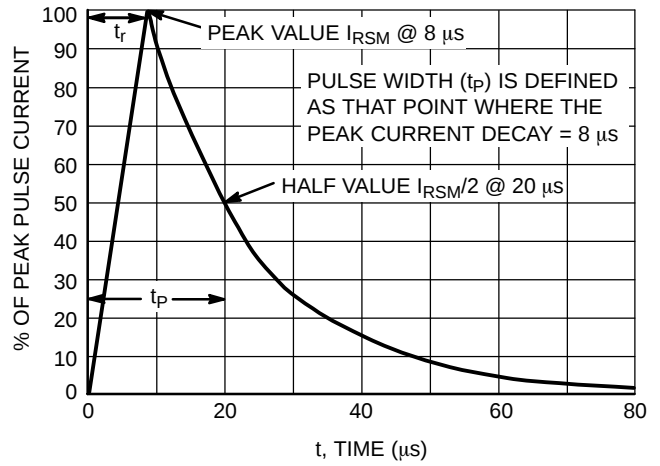

Figure 2. 8 x 20 μ s Pulse Waveform
1. Non-repetitive current pulse per Figure 2
5. Surge current waveform per Figure 2